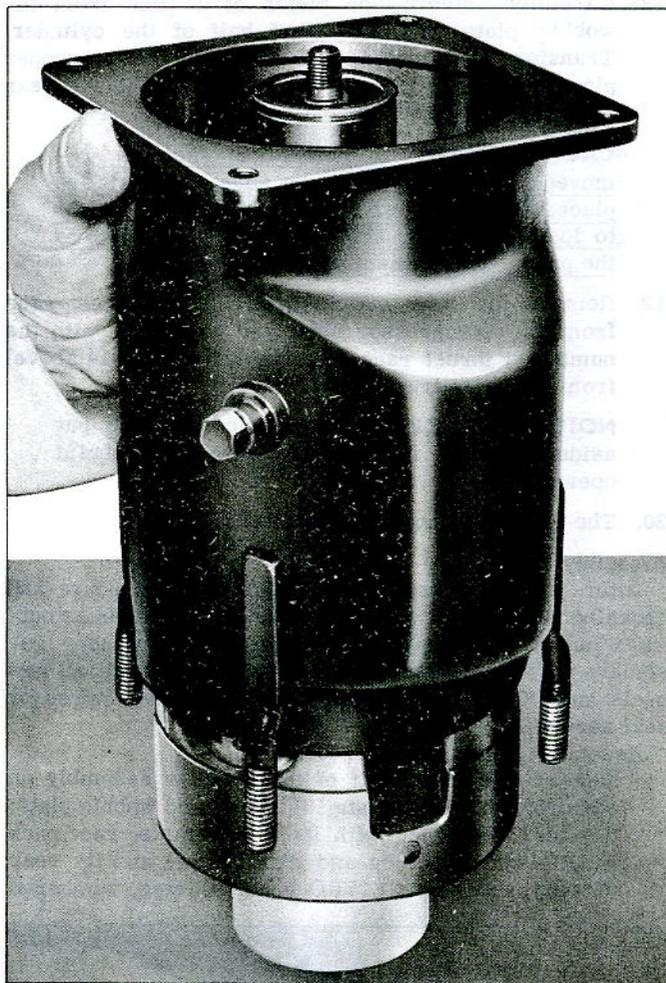

Fig. 56—Installing Shell Over Internal Mechanism
10. Locate the oil intake tube hole in the rear discharge plate. Line up the oil sump with this hole location and slide the shell down over the mechanism while supporting the mechanism on J-9521 (fig. 56).